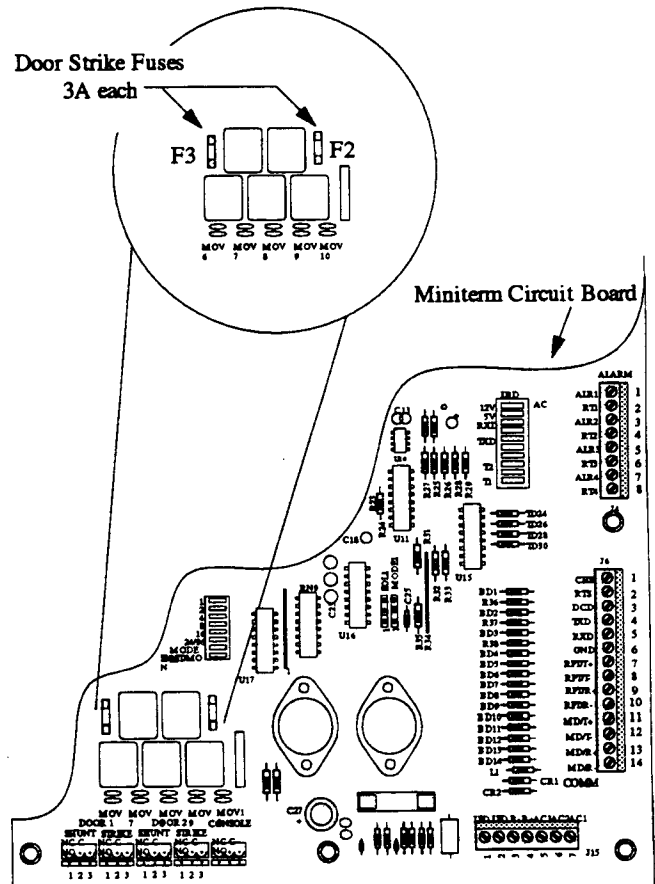

Figure 29 - Door Strike Fuse Location
Two 3.15-ampere (3.15A) slow-blow fuses (F2 and F3) protect the door strike power circuits. These fuses are located near the relays on the Miniterm circuit board (see Figure 29).
- 2) Locate the faulty door strike fuse (F2 or F3) (see Figure 29).